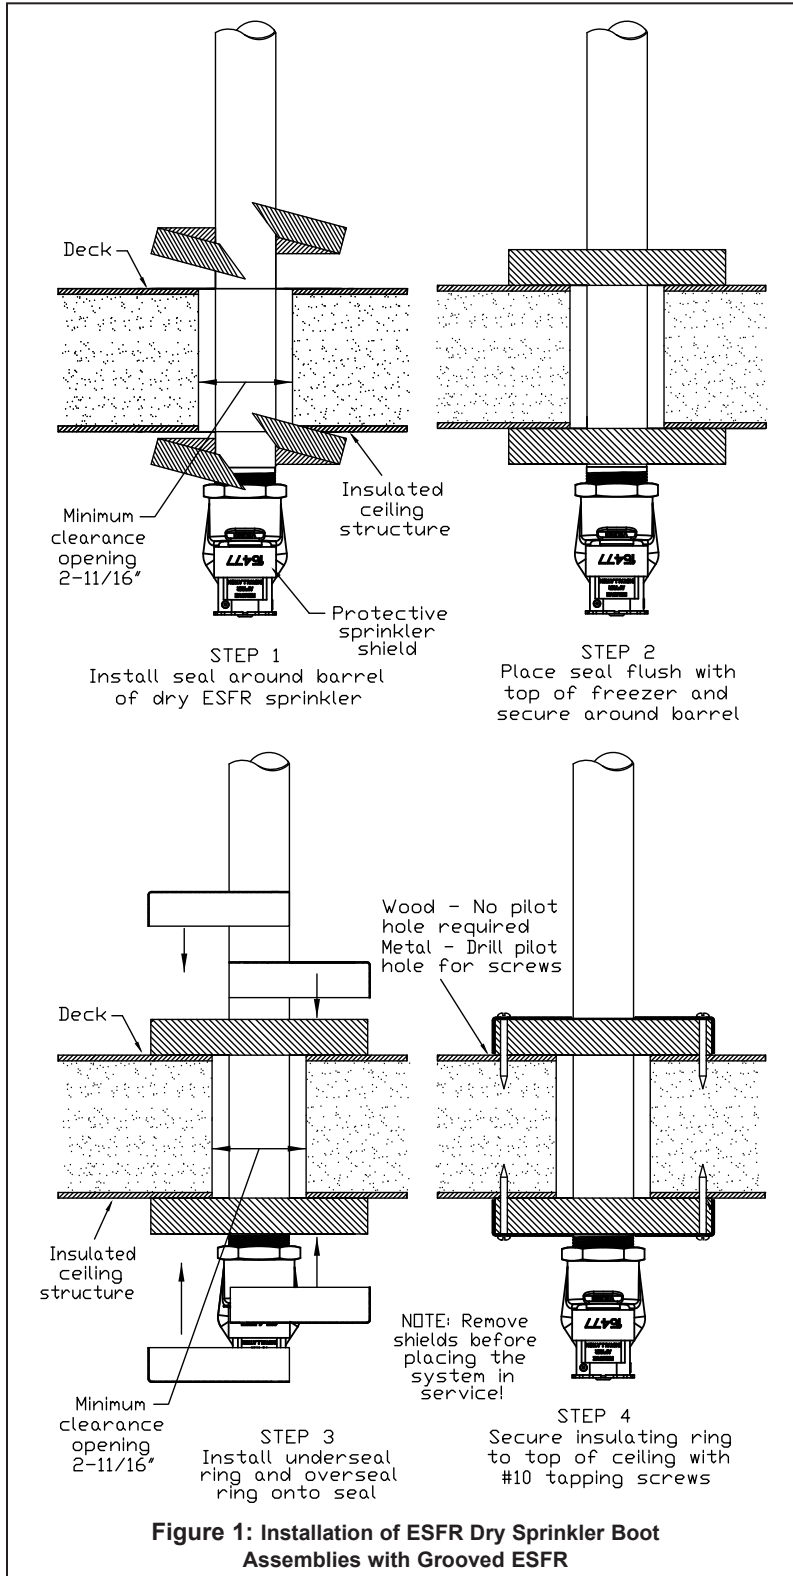

Figure 1: Installation of ESFR Dry Sprinkler Boot Assemblies with Grooved ESFR
- E. Refer to Figures 1 and 3 on pages 129e-g. Install the dry sprinkler boot assemblies around the dry sprinkler barrel and to the freezer until the seals rest flush upon a smooth flat surface against the freezer.